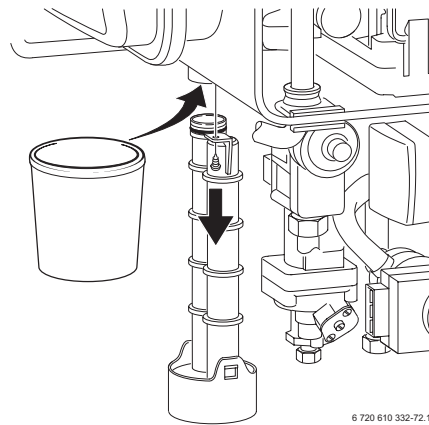

Fig. 52
- ▶ Unscrew condensation trap and place suitable container underneath. Refer to fig. 52.
In order to prevent spillage of condensate, the condensation trap should be completely removed, (see page 34, fig. 52).